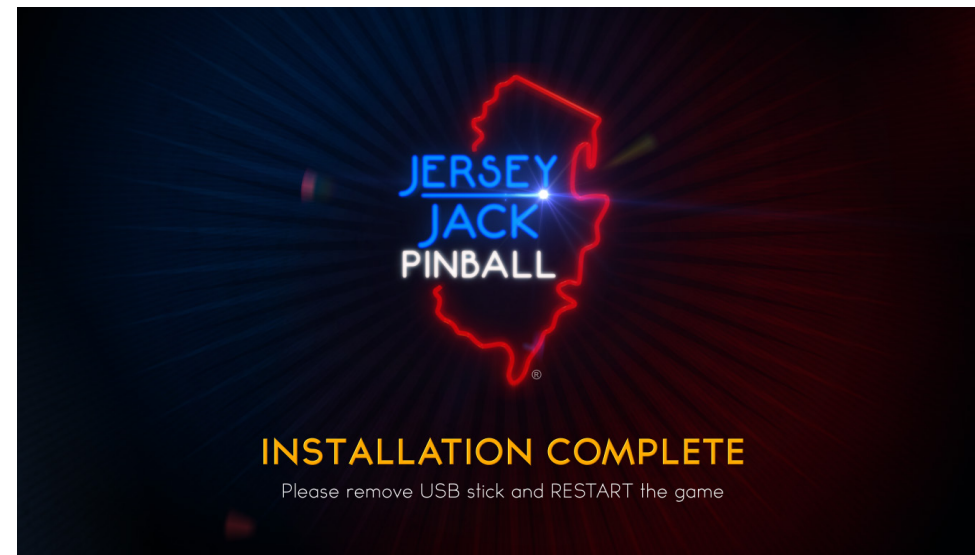

Figure E6. Update installation complete!
10) When the update is complete, the screen in figure E6 will be displayed on the game's LCD monitor. Power the game down, remove the update USB stick and power it on again. Your game will boot up running the new version of software (which can be verified by entering the Dialed In menu system - see Section B). Store your 8 GB USB stick in a safe place; it can be used to perform another full software update in the future (to this same software version or a newer one).